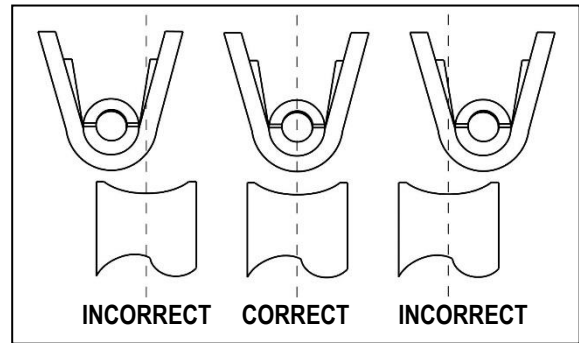

Figure 4.5.3
6. For mechanical feed applicators with pre-feed timing, hand-cycle the press so the feed pawl retracts and feeds the next terminal to a centered position over the anvils. See Figure 4.5.3.
- After feeding the terminal, the terminal must be centered over the anvils. See Figure 4.5.3. If the terminal is not centered over the anvils, use the terminal feed adjustment procedure (Section 4.6) to correct the position.